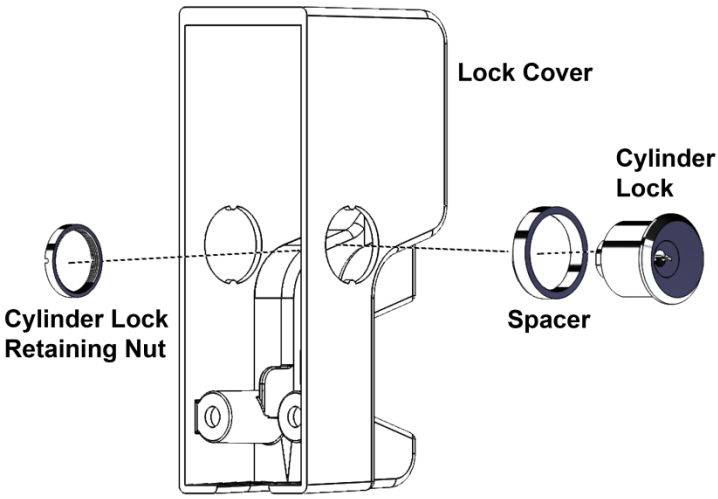

Figure 5. Cylinder Lock Installation
- b. INSERT the cylinder lock with applicable spacer (i.e., Sargent Number 90) into the applicable cover hole (see table below and Figure 5, “Cylinder Lock Installation”).